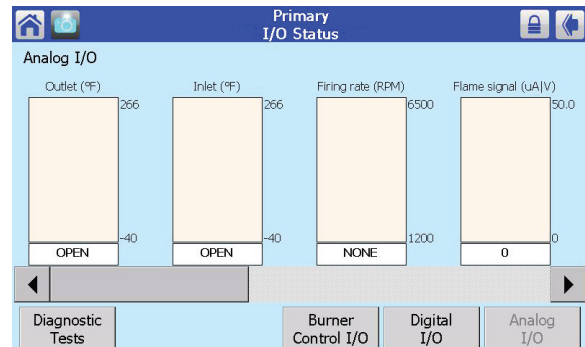

Fig. 131 - Analog I/O Screen
3. The button for Analog I/O displays items that change continuously between two limits. See Fig. 131.